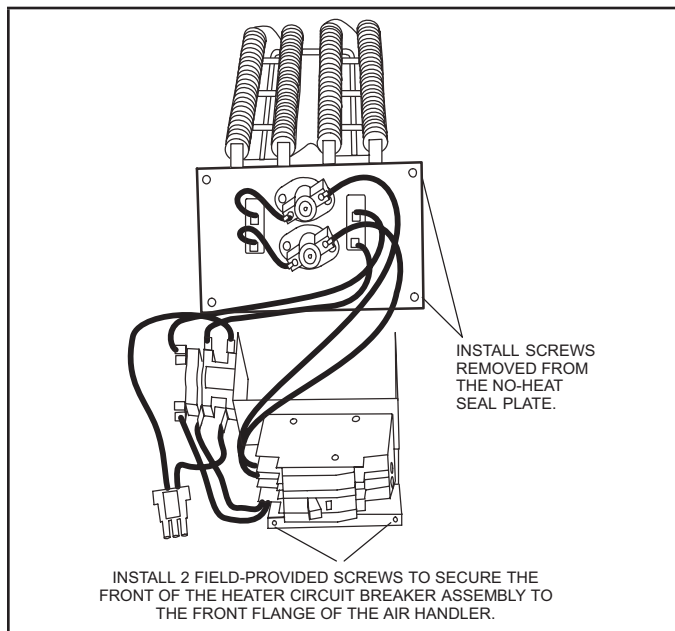
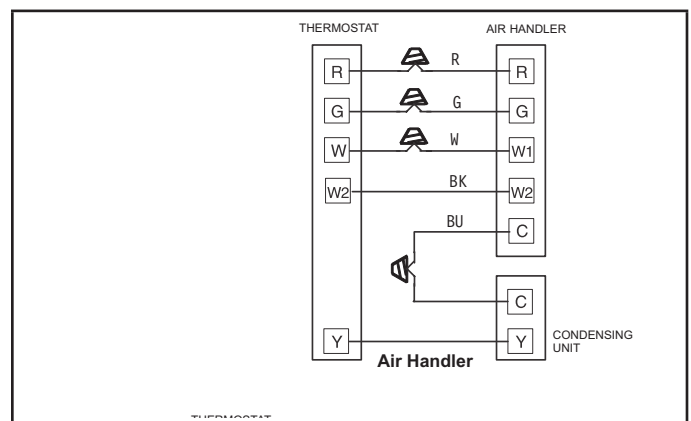

FIGURE 10. Installing the Heat Element Assembly
FIGURE 13. Field Power Supply Wiring
- 6 - Secure the electric heater assembly into place with the screws that were removed from the heat element panel. Install two field-provided #8 SDST screws in the front of the electric heater assembly (see figure 10).
Refer to figure 13 for typical low voltage field wiring for air handler/condensing unit and heat pump applications. Figure 10 is a diagram of the air handler connections and the heater high-voltage wiring.
Heaters equipped with circuit breakers – Connect field power supply wiring to circuit breaker(s). Figure 13 shows **L1**, **L2** and ground (**GND**) connections for a 2-breaker configuration.